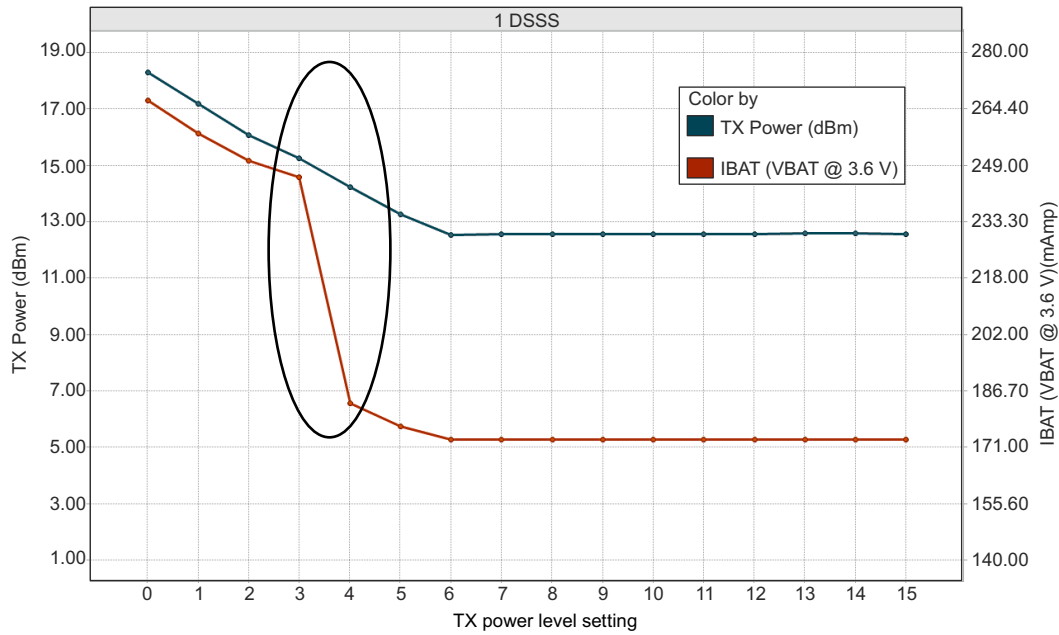
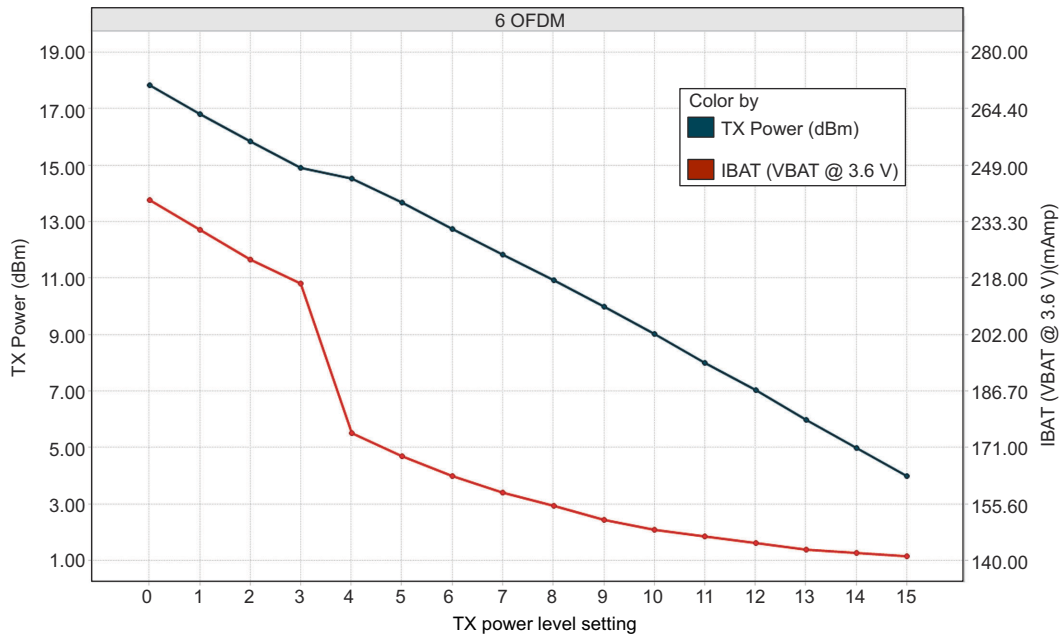
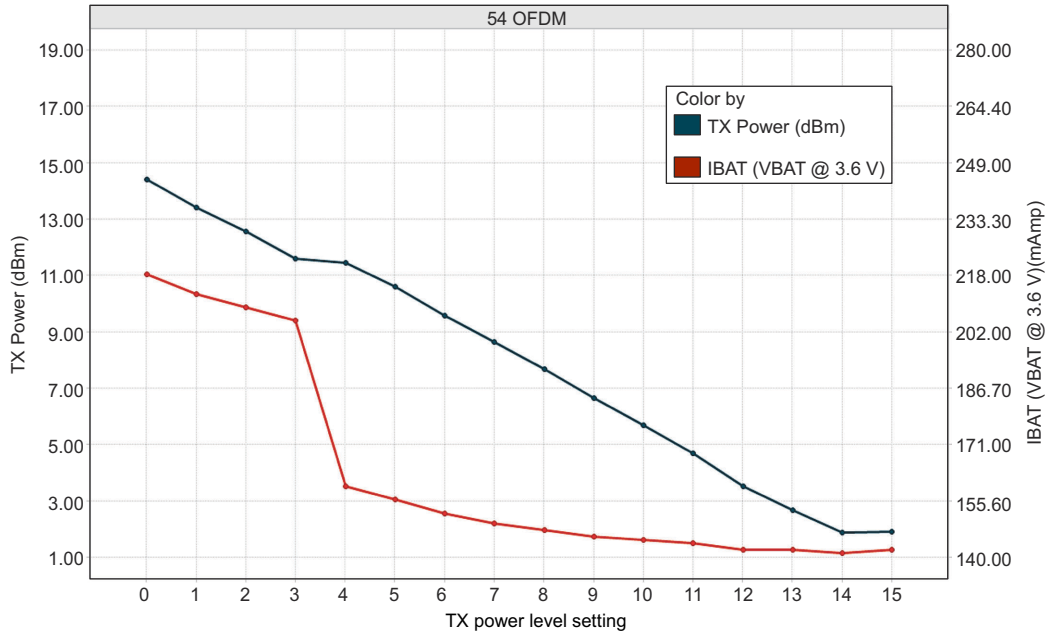

Figure 7-1. TX Power and IBAT vs TX Power Level Settings (1 DSSS)
Figure 7-2. TX Power and IBAT vs TX Power Level Settings (6 OFDM)
Figure 7-3. TX Power and IBAT vs TX Power Level Settings (54 OFDM)
- (1) TX power level = 0 implies maximum power (see Figure 7-1, Figure 7-2, and Figure 7-3). TX power level = 4 implies output power backed off approximately 4 dB.
- (2) The CC3135 system is a constant power-source system. The active current numbers scale based on the V_{BAT} voltage supplied.
- (3) The RX current is measured with a 1-Mbps throughput rate.
- (4) DTIM = 1
- (5) The complete calibration can take up to 17 mJ of energy from the battery over a time of 24 ms. In default mode, calibration is performed sparingly, and typically occurs when re-enabling the NWP and when the temperature has changed by more than 20°C. There are two additional calibration modes that may be used to reduced or completely eliminate the calibration event. For further details, see CC31XX CC32XX SimpleLink™ Wi-Fi® and IoT Network Processor Programmer's Guide.
- (5) The complete calibration can take up to 17 mJ of energy from the battery over a time of 24 ms. In default mode, calibration is performed sparingly, and typically occurs when re-enabling the NWP and when the temperature has changed by more than 20°C. There are two additional calibration modes that may be used to reduced or completely eliminate the calibration event. For further details, see CC31XX, CC32XX SimpleLink™ Wi-Fi® and IoT Network Processor Programmer's Guide.
Figure 7-1, Figure 7-2, and Figure 7-3 show TX power and IBAT versus TX power level settings for the CC3135 device at modulations of 1 DSSS, 6 OFDM, and 54 OFDM, respectively.
In Figure 7-1, the area enclosed in the circle represents a significant reduction in current during transition from TX power level 3 to level 4. In the case of lower range requirements (14-dBm output power), TI recommends using TX power level 4 to reduce the current.